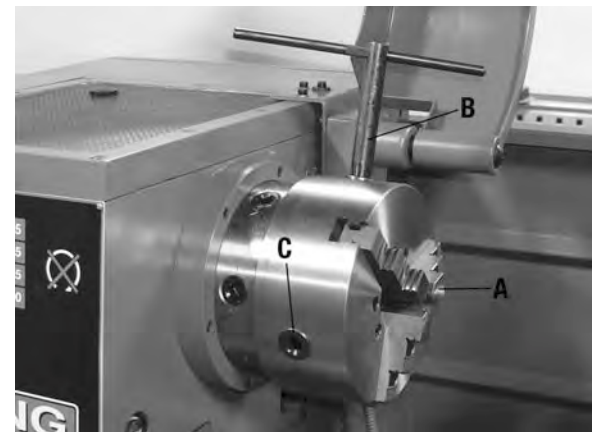

FIGURE 6
Chuck jaws (A) Fig.6 can be opened or closed by using the camlock key (B) in the jaw adjustment cams (C). Turning the camlock key clockwise will close the jaw opening and counterclockwise will open the jaw opening.